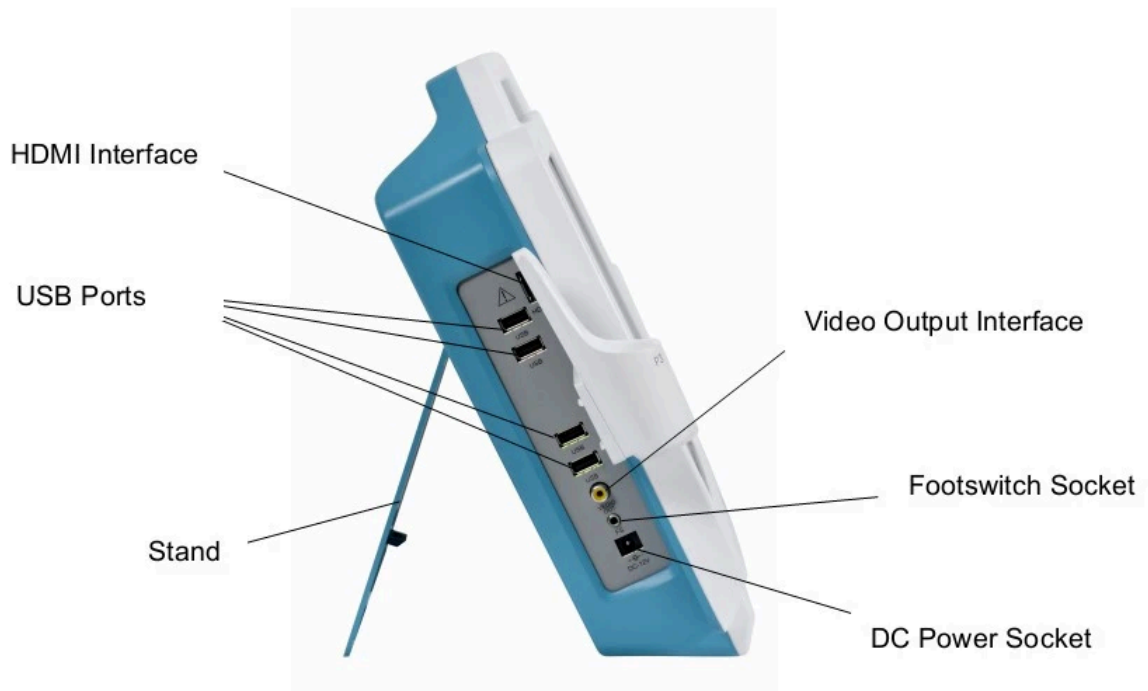

Figure 3-2 Left View of EUS-2600
2. Insert the wireless receiver of peripherals (wireless keyboard and mouse) into the USB port shown in Figure 3-2;
3. Insert the connector of the footswitch into the FS port shown in Figure 3-2;
4. Insert the power adaptor into the DC power socket shown in Figure 3-2.